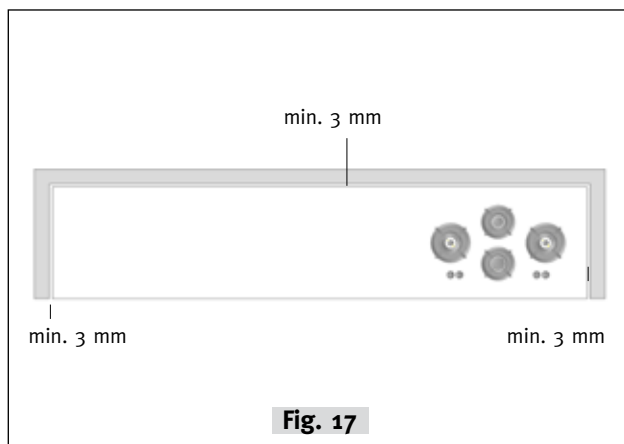

Fig. 17
- 3d. The distance between the kitchen worktop and the wall and/or cabinets should be at least 3 mm (**fig. 17**). This allows the material to expand.